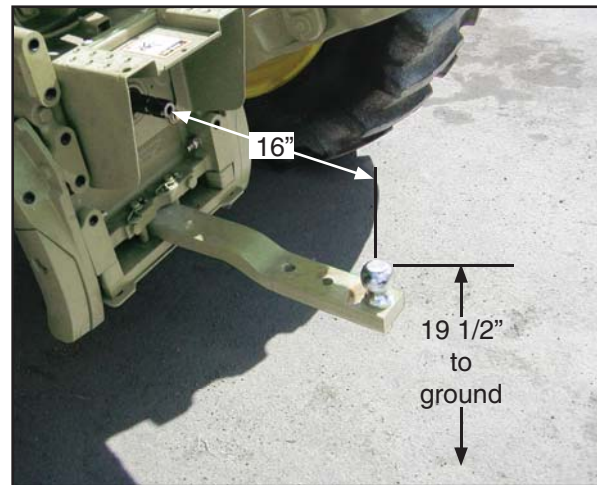

Figure 4 - 2 5/16" Tractor Ball
3. The center of the ball should be approximately 16" from the end of the tractor P.T.O. shaft. The top of the ball should be 19 1/2" from the ground (see Figure 4).